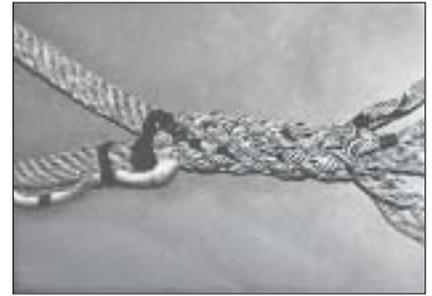

fig. 11
20. Continue to tuck the strands as noted above, until each strand has been tucked a total of six times (fig. 11).